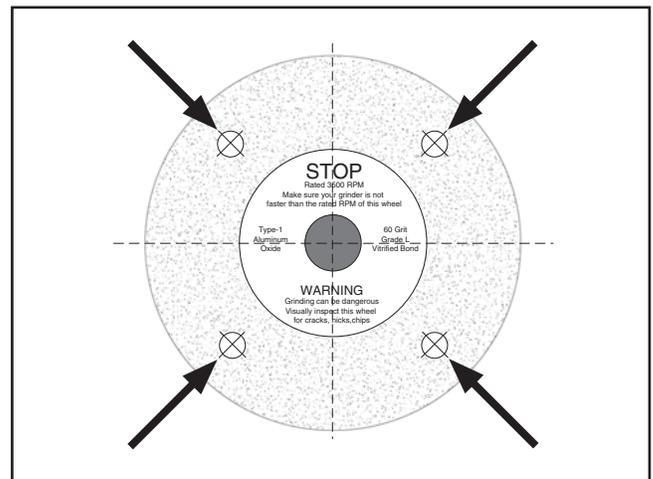

Figure 14. Tapping locations when performing a ring test.
3. At points shown in **Figure 14**, gently tap wheel with light, non-metallic device such as handle of screwdriver or a wooden mallet.